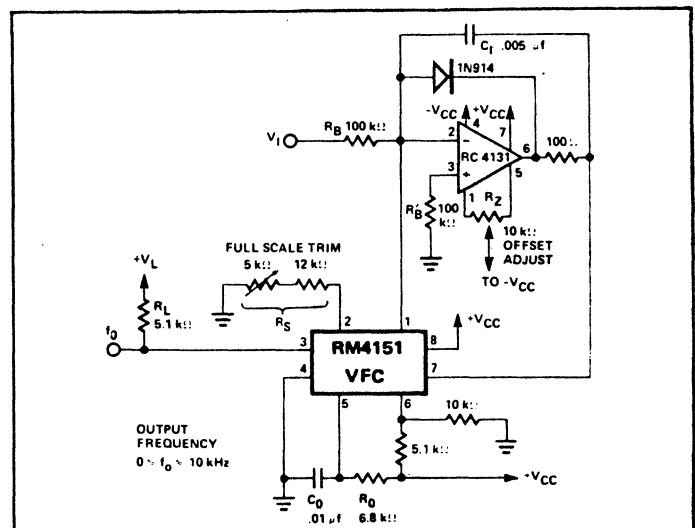

Figure 5. Precision Voltage-to-Frequency Converter
In this application (Figure 5) the 4151 VFC is used with an operational amplifier integrator to provide typical linearity of 0.05% over the range of 0 to -10V. Offset is adjustable to zero. Unlike many VFC designs which lose linearity below 10mV, this circuit retains linearity over the full range of input voltage, all the way to 0V.
1. Set  $R_S = 14\text{k}\Omega$  or use a 12k resistor and 5k pot as shown in the figures. (The only exception to this is Figure 5.)
b) For the precision mode circuit of Figure 5, set  $R_B = \frac{V_{IO}}{100\mu\text{A}}$  where  $V_{IO}$  is the full scale input voltage. Alternately the op-amp inverting input (summing node) can be used as a current input with full scale input current  $I_{IO} = -100\mu\text{A}$ .
- I. Design a precision VFC (from Figure 5) with  $f_o = 100\text{kHz}$  and  $V_{IO} = -10\text{V}$ .